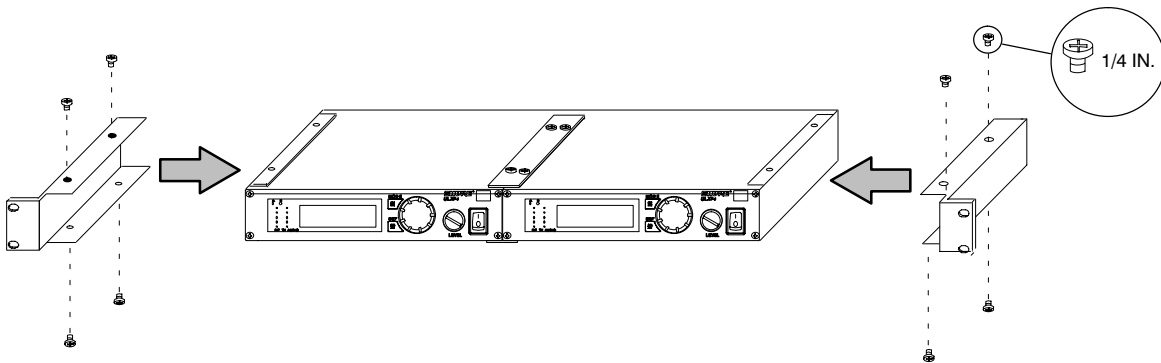

FIGURE 52
6. Slide the linked receivers into a 19-inch audio equipment rack, as shown in Figure 52.